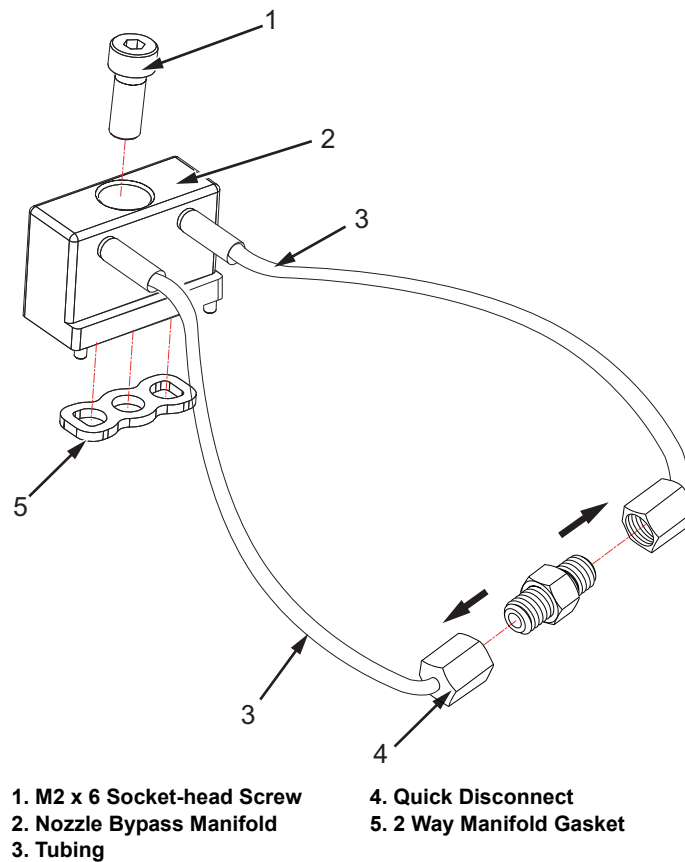

Figure 4-23: Bypass Manifold
- 38 Remove the M2 x 6 socket-head-cap screw (item 1, Figure 4-23) that attaches the front tubing manifold to the printhead valve module.
- 39 Remove the 2-way manifold gasket (item 5).